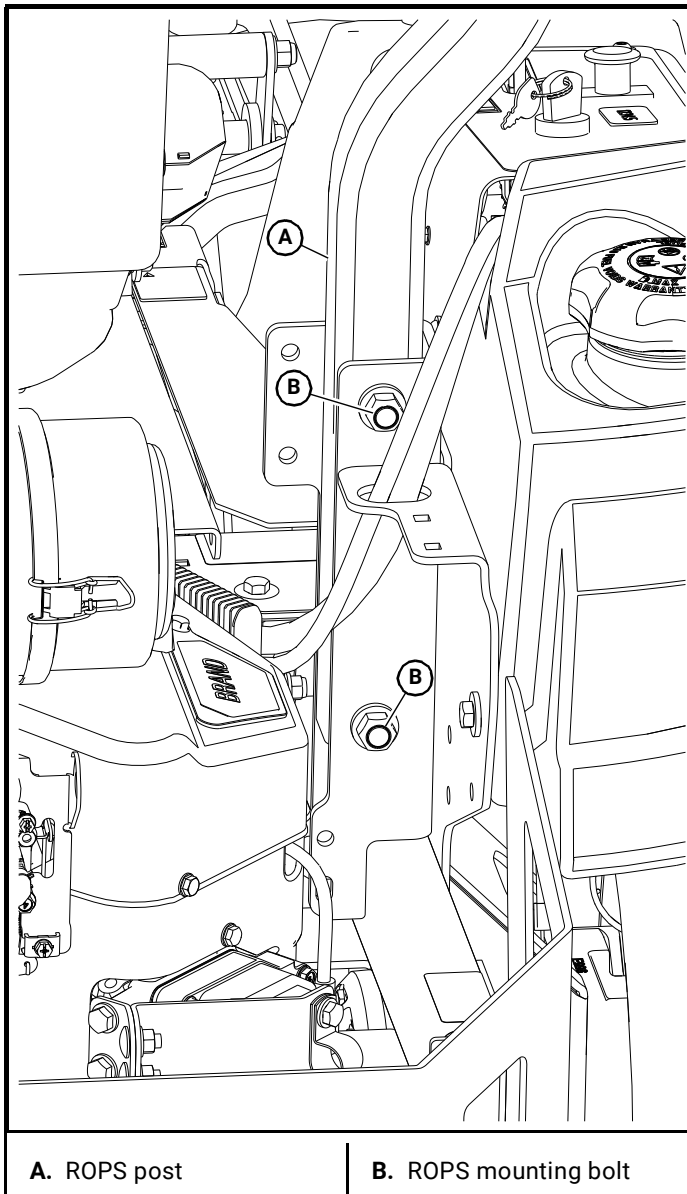

Figure 3-10
1. Check the torque of the ROPS mounting bolts (Figure 3-10). Tighten the bolts to the correct torques as shown below if necessary.